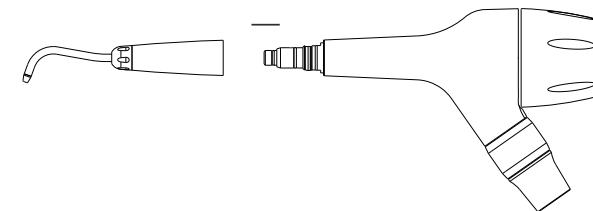

Figure 8
2. Insert the assembled handpiece into the connection of the main unit until hearing a "click" sound, and ensure it is connected in place. (See Fig. 8)